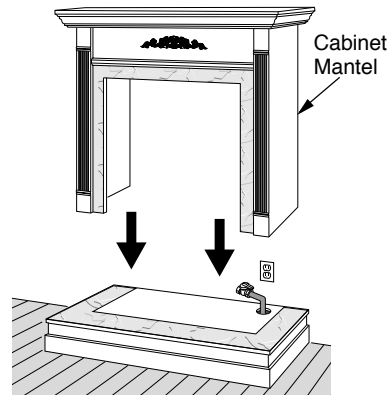

Figure 31 - Installing Cabinet Mantel
6. Center cabinet mantel on hearth base (see Figure 31). Make sure mantel is flush against wall.